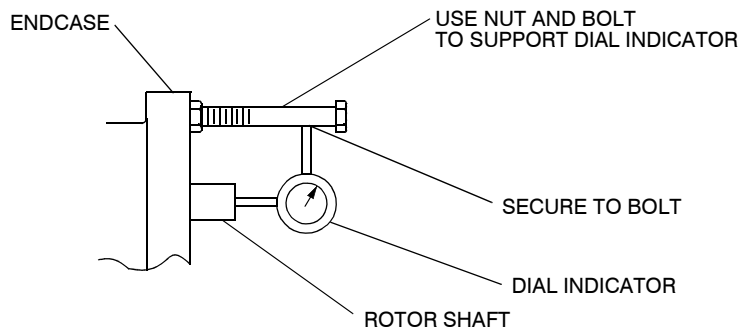

Figure 2-5. Rotor Clearance Adjustment
1. Install bearing adjusting nuts (12) on endcases (15), leaving about 1/2-turn short of bearing contact.
2. On idler rotor assembly (23) tighten one bearing adjusting nut (12) until rotor contacts liner (21). Install dial indicator on opposite end of shaft as shown in Figure 2-5 and zero indicator.
3. Loosen previously tightened bearing adjusting nut (12). Tighten opposing bearing adjusting nut until rotor just contacts the other liner and note reading. This is the total clearance.